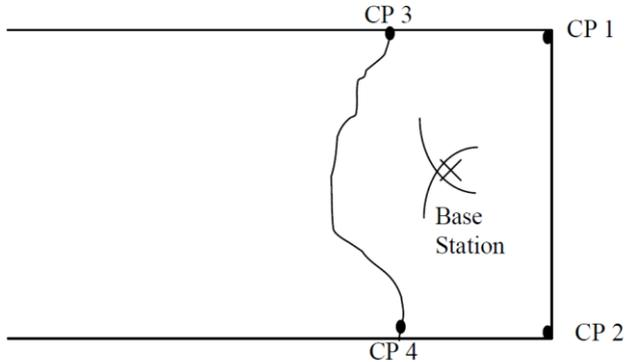
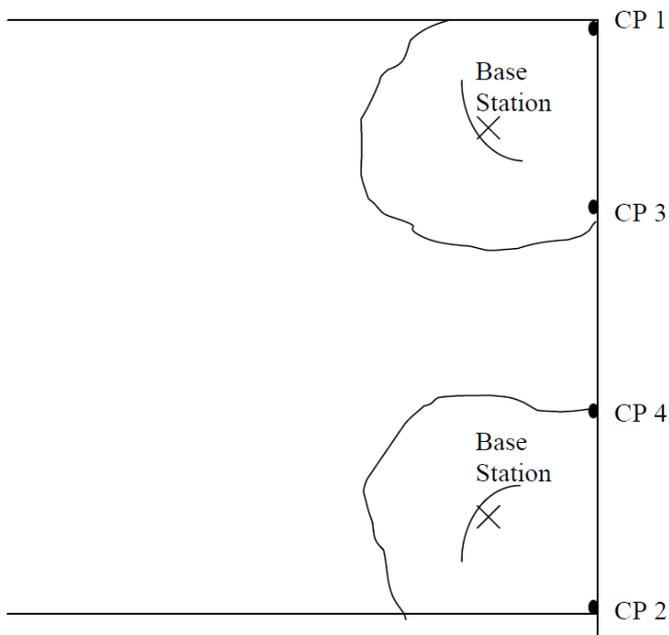

Figure 16 Example of a Single Floor Coverage.
Figure 17. Example of a Single Floor Coverage.
The following is the basic procedure to determine the cell centre and the cell boundaries. In Figure 16 Example of a Single Floor Coverage., an example of a single floor is depicted.
1. Determine the outer points in the building. These points are the so-called “Critical Points”. (In Figure 16 Example of a Single Floor Coverage., these are CP1 and CP2).
7. Determine new Critical Points (CP 3 and CP 4 in Figure 16 Example of a Single Floor Coverage.) at the external walls and repeat the procedure from step 1 onwards.
If the width of the area is more (see Figure 17. Example of a Single Floor Coverage.) than the area that is depicted in Figure 16 Example of a Single Floor Coverage., then the following procedure must be executed:
1. Determine the outer points in the building (see Figure 17. Example of a Single Floor Coverage.). These points are the so-called "Critical Points". (CP1 and CP2).